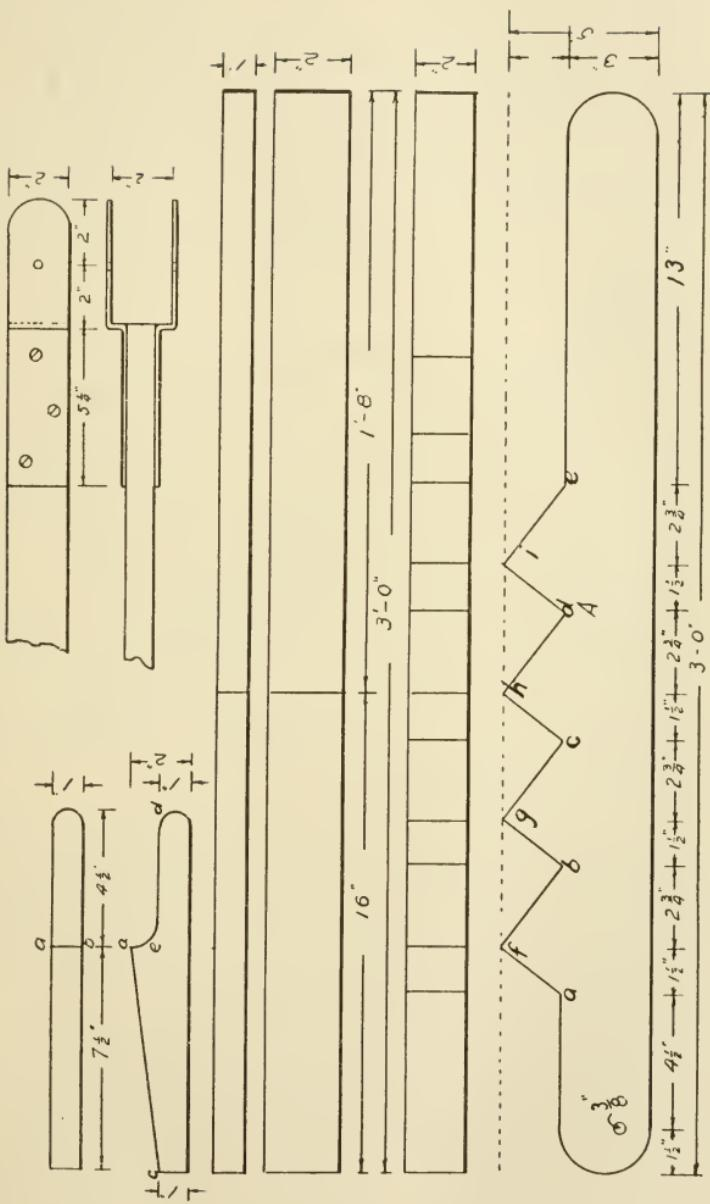

FIG. 60.—DETAILS OF WAGON JACK.
1. **Laying out, squaring, and planing.** — Plane *A*, Fig. 60, $5''$ wide, $2''$ thick, and $3'$ long. Set the gauge at $3''$ and gauge on both surfaces from one edge. $6''$ from one end, square a line across the gauged line. $4\frac{1}{4}''$ from this line, square another line. Repeat this operation until 5 lines have been drawn. These lines locate points *a*, *b*, *c*, *d*, and *e*. $1\frac{1}{2}''$ from the first line *a*, square another line, and at the same distance
Lay out the handle 1" thick, 2" wide, and 12" long. $7\frac{1}{2}$ " from one end square a line *ab* across one edge. Lay off a point *c* on the same end 1" from the edge; connect this point with the line squared across the edge. From *a*, square a line across the side (Fig. 60).